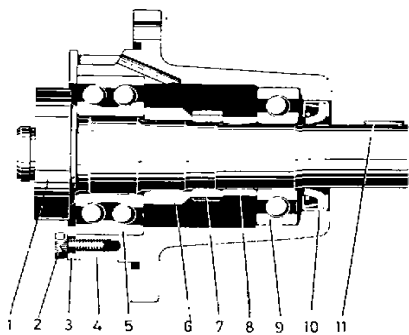

Fig. 122. Injection pump drive
1. Remove the key (11, fig. 122), if fitted.
2. Remove the attaching bolts (2) and the washer (39).
3. Press the shaft with bearings, spacer sleeves and revolution counter (tachometer) drive out of the housing. If the bearing (9) does not come out straight away, then disassembly is carried out in two stages. Remove the bearings and the revolution counter (tachometer) drive from the shaft.
4. Remove the shaft seal (10) from the housing.